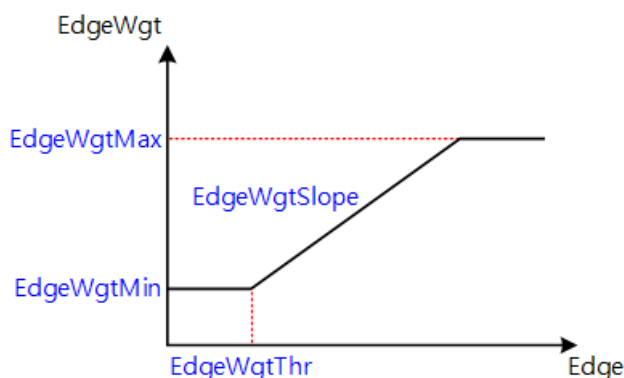

Fig. 5.17: The relationship curve between edge intensity and smoothing intensity EdgeWgt during edge smoothing
Step 4. Adjust the parameter **DetailSmoothStr** to reduce the false details caused by the sensor sensitivity and noise when Demosaic, which affect the direction judgment, especially in the highly dense line texture area. False detail suppression function can make details more natural. The larger the **DetailSmoothStr** is, the stronger the detail smoothing function is. However, too much increase will lead to the loss of detail. As shown in Figure 5-17, while smoothing the details, the range and strength of detail preservation are determined by the parameters **DetailWgtThr** and **DetailWgtSlope** respectively, and the upper and lower limits of detail preservation are controlled by **DetailWgtMin** and **DetailWgtMax**. In addition, as shown in Figure 5-18, the parameters **EdgeWgtThr** and **EdgeWgtSlope** can be adjusted to determine the detail smoothing range and intensity according to the edge strength, and **EdgeWgtMin** and **EdgeWgtMax** can control the upper and lower limits of the smoothing intensity.